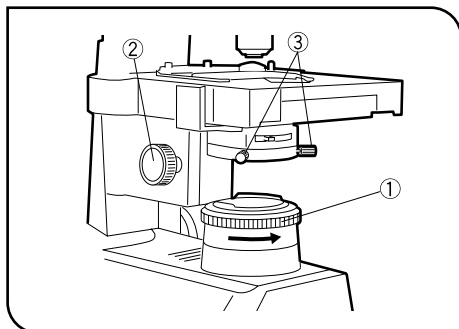

Fig. 21
1 Centering the Field Iris Diaphragm (Figs. 21 & 22)
1. With the 10X objective engaged and the specimen brought into focus, turn the field iris diaphragm ring ① counterclockwise to stop down the diaphragm to near its minimum size.
2. Turn the condenser height adjustment knob ② to bring the field iris diaphragm image into focus.
3. Rotate the two condenser centering knobs ③ to adjust so that the field iris diaphragm image is centered in the eyepiece field of view. (Figs. 21 & 22)